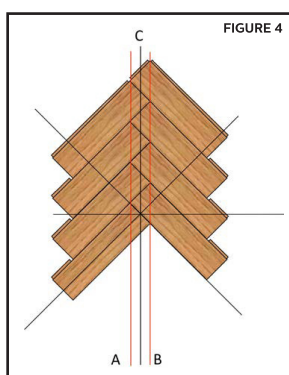

FIGURE 4
- Measure the room for center and strike the main control, perpendicular and diagonal reference lines using the trammel point method described previously and shown below in **Figures 4 and 5**.
- Using the measurement derived above, strike two working lines on either side of the main control line as shown in **Figures 4 and 5**.